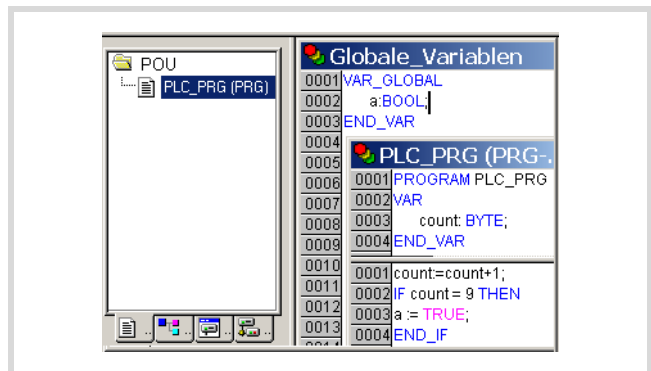

Figure 35: Creating a POU for a cyclic task
- ▶ Move from the task configuration to the POU tab and right-click on the default program POU PLC\_PRG. Enter the program as shown in figure 35.